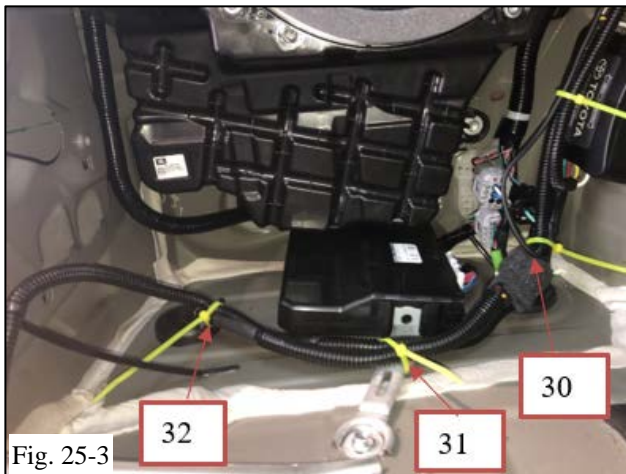

Fig. 25-3
- (g) Mark the temporary location, peel off completely double sided tape liner, place Trailer Electronic Module on the vehicle body and apply pressure, permanently affixing the Trailer Electronic Module on the vehicle body (Fig. 25-3).
- (3) Tighten the tie wraps. #30, #31 and #32 (shown in Fig. 25-3)
- (4) Clip the excess of wire ties for all wire ties used.